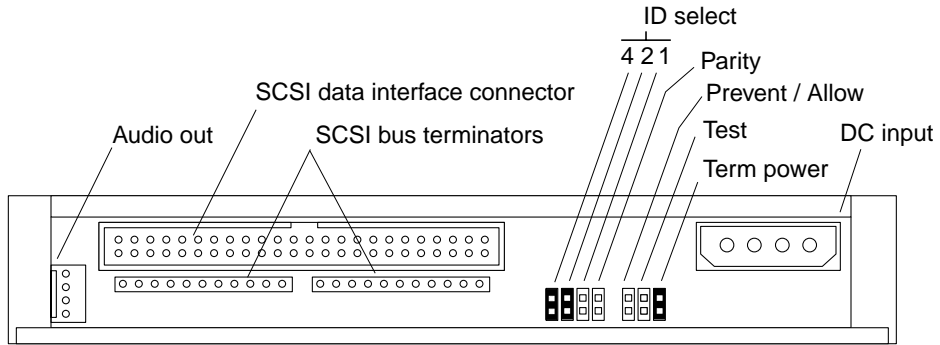

FIGURE 9-5 Jumper Settings for SPARCstation 4 CD-ROM Drive
2. **Make sure that the jumper settings on the replacement drive match those shown in FIGURE 9-5.**